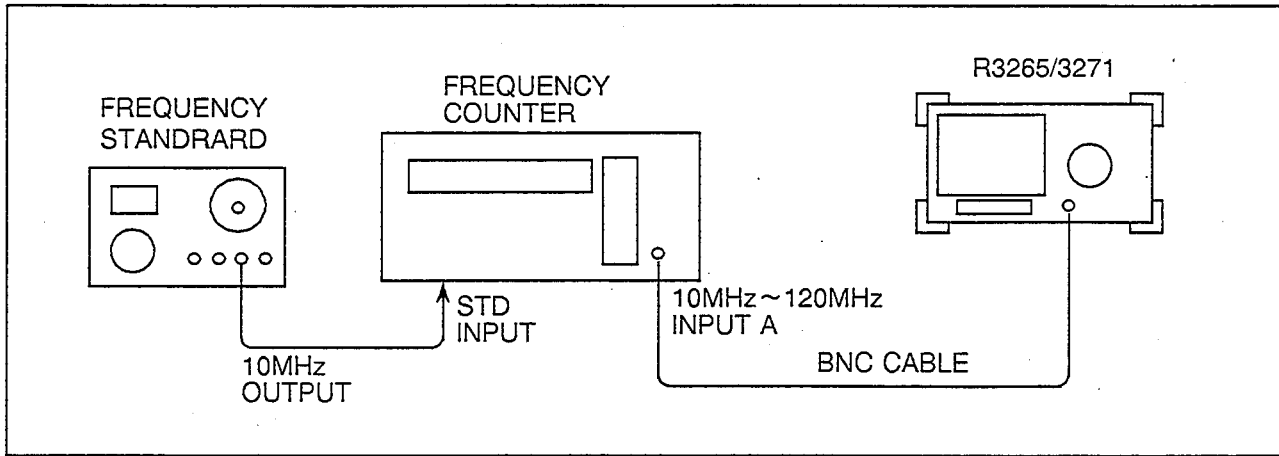

Figure 4-2 Frequency Reference Accuracy Test Setup
- (1) Connect the equipment as shown in Figure 4-2.
- (2) Set the TR5823 controls as follows: